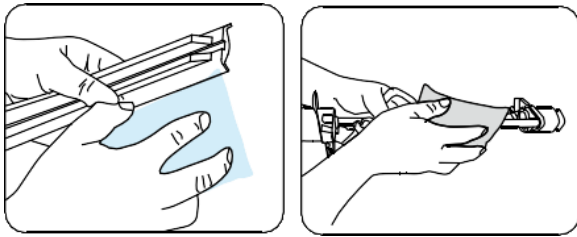

Figure 60
4. Wipe the scraper blade and beater with a soft cloth. (Figure 60)